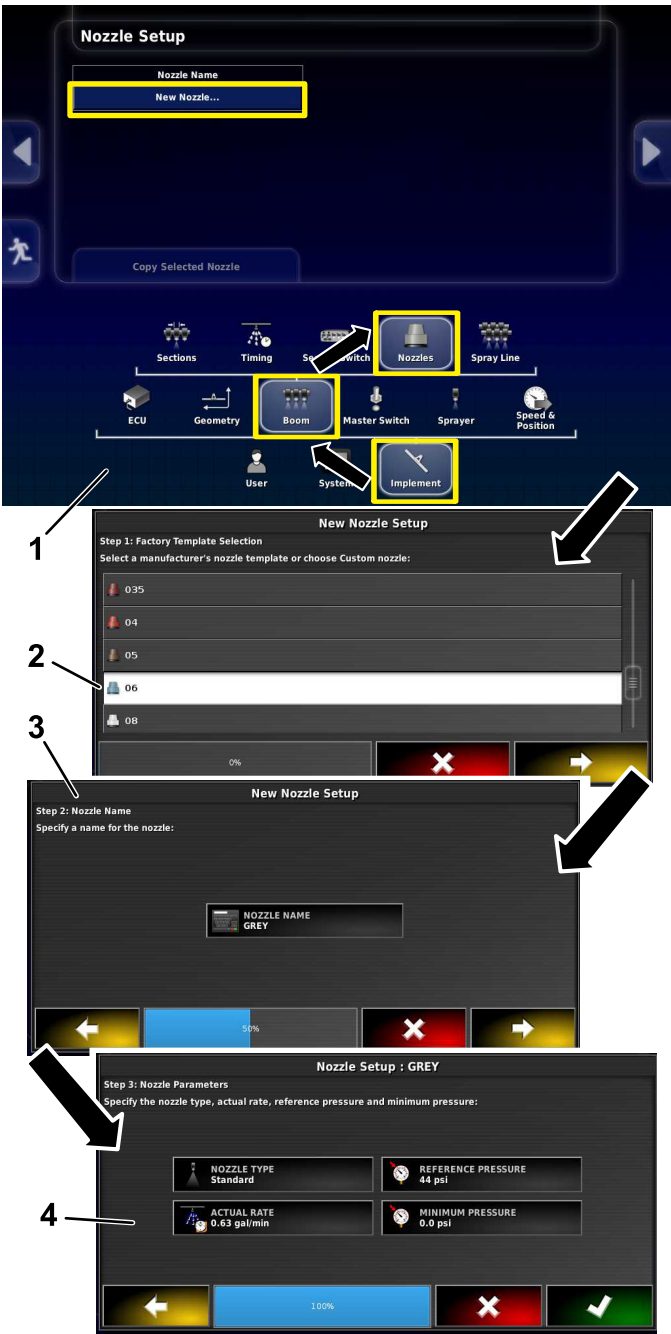

Figure 6
2. Select the implement icon, boom icon, and nozzles icon (Figure 6).
3. Select the new-nozzle icon at the top of the screen (Figure 6).
4. Select the nozzle based on size and color (Figure 6).
5. Press the NOZZLE NAME icon (Figure 6).